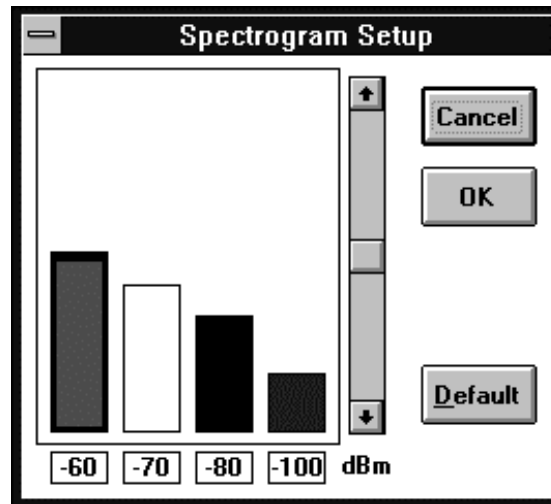

Figure 5-13: Spectrogram Setup Dialog Box
1. Click on any of the individual color definition bars to open the **Spectrogram Setup** dialog box (Figure 5-13).